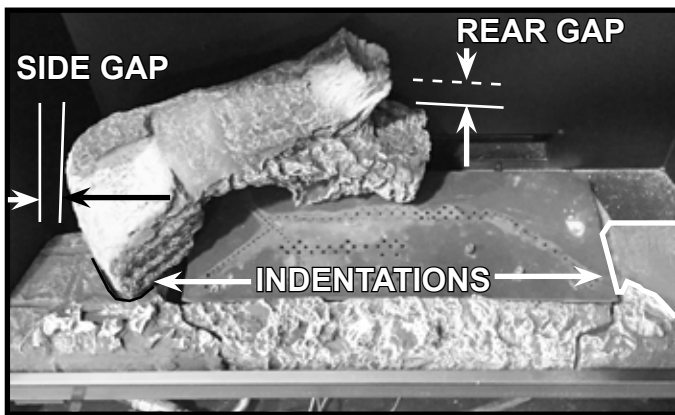

Figure 4. Install Left Rear Log
The log pins, along with the indentations in the Hearth components, will aid in correctly positioning the two rear logs and small burner log. The indentations in the hearths are shown in Figure 4.
Additionally, the rear left log and rear right log are located by visually aligning the bottom edge of the log with the indentations in the left and right hearth components. See Figure 4.
**SL-7/SL-7-IFT and SL-9/SL-9-IFT Models:** There will be about a 1 inch rear gap between the left rear log and the back wall of the firebox. There will be about a 1-1/2 inch side gap between the left end of the log and the left side of the firebox. See Figure 4.
**SL-5/SL-5-IFT Models:** There will be about a 1 inch rear gap from the left rear log to the back wall of the firebox. There will be about a 1 inch side gap between the rear left log and the side of the firebox. See Figure 4.